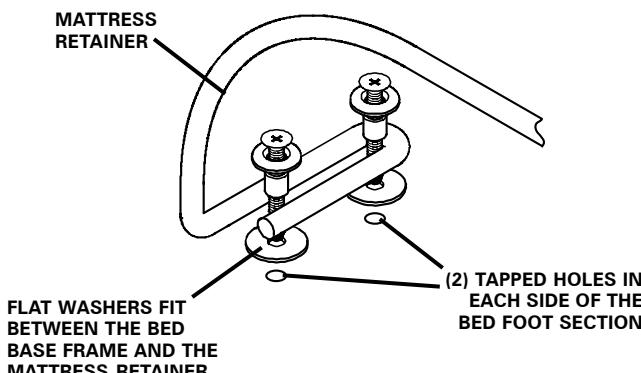

FIGURE 5: Mattress retainer installation
- Install the mattress retainer bolts (loosely) into tapped holes in the foot section of the bed base frame (FIGURE 5).
- Slide each U-shaped end of the mattress retainer around the mattress retainer bolts. Position the retainer ends between the spacer and the washer (FIGURE 5).